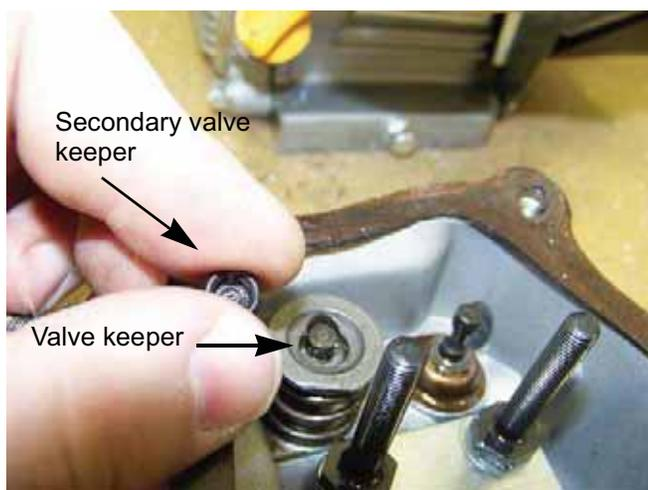

Figure 9.12
**NOTE:** The exhaust valve has a secondary keeper on it. Press down on the valve keeper and the secondary keeper will pop off, then slide the keeper off of the valve stem. See Figure 9.12.